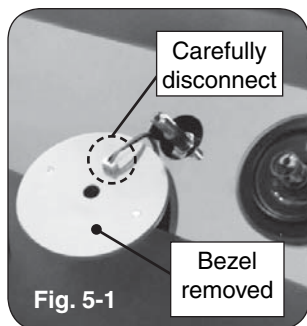

Fig. 5-1
- Pull off the control knobs. Slowly lift away the lighted bezels to clear the valve stems, and carefully disconnect the wires found on the back of the bezels (use your fingernail). See Fig. 5-1. Unscrew and remove the control panel screws and washers. Remove control panel.